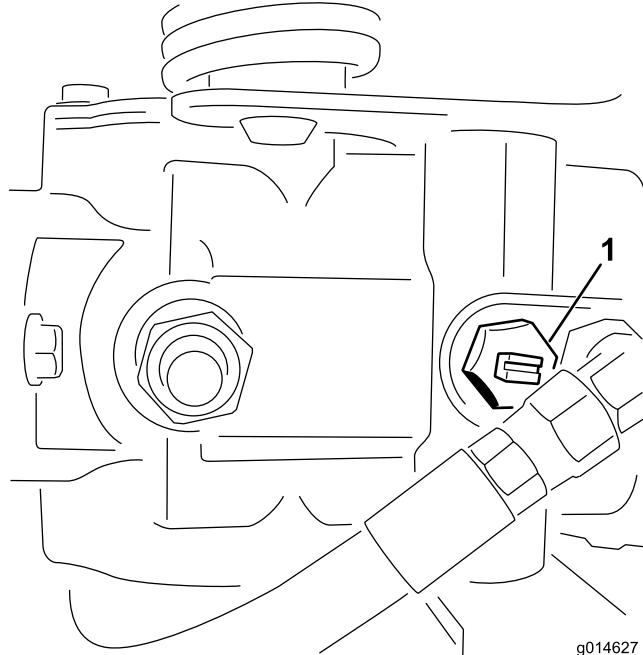

Figure 42
1. Locate the bypass valve on the pump and rotate it so that the slot is vertical (Figure 42).
2. Before starting the engine, close the bypass valve by rotating it so that the slot is horizontal (Figure 42). Do not start the engine when the valve is open.